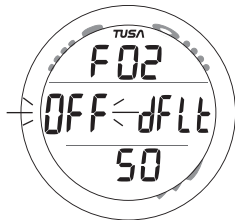

Fig. 38 - SET FO2 DEFAULT
**SET FO2 50% DEFAULT**, information includes (Fig. 38):